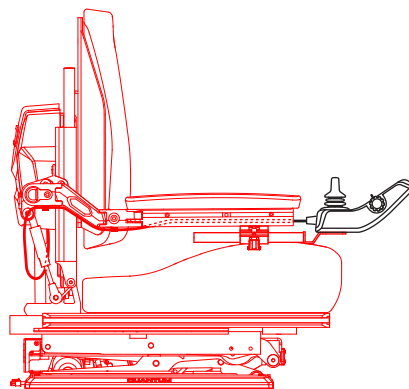

Figure 7. Controller Harness Routing on a TRU-Balance 3
4. Install the controller and route the harness to the back of the power base. See figure 7, 8, 9, or 10.
6. Secure the controller harness to the armrest receiver with wire ties. **See figure 7, 8, 9, or 10.**